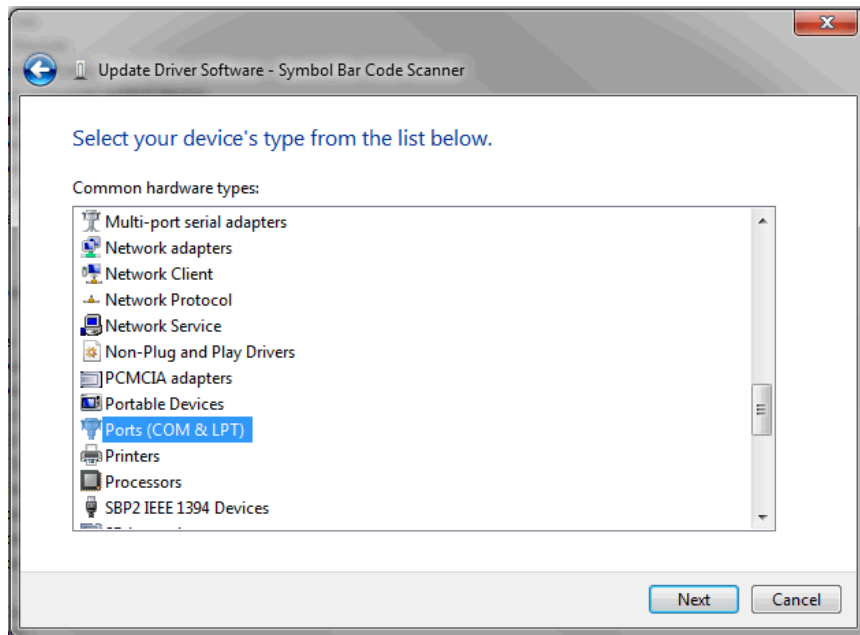

Figure 14: Select Ports (COM & LPT)
- f. In the **Common hardware types** list, select **Ports (COM & LPT)** (see Figure 14).